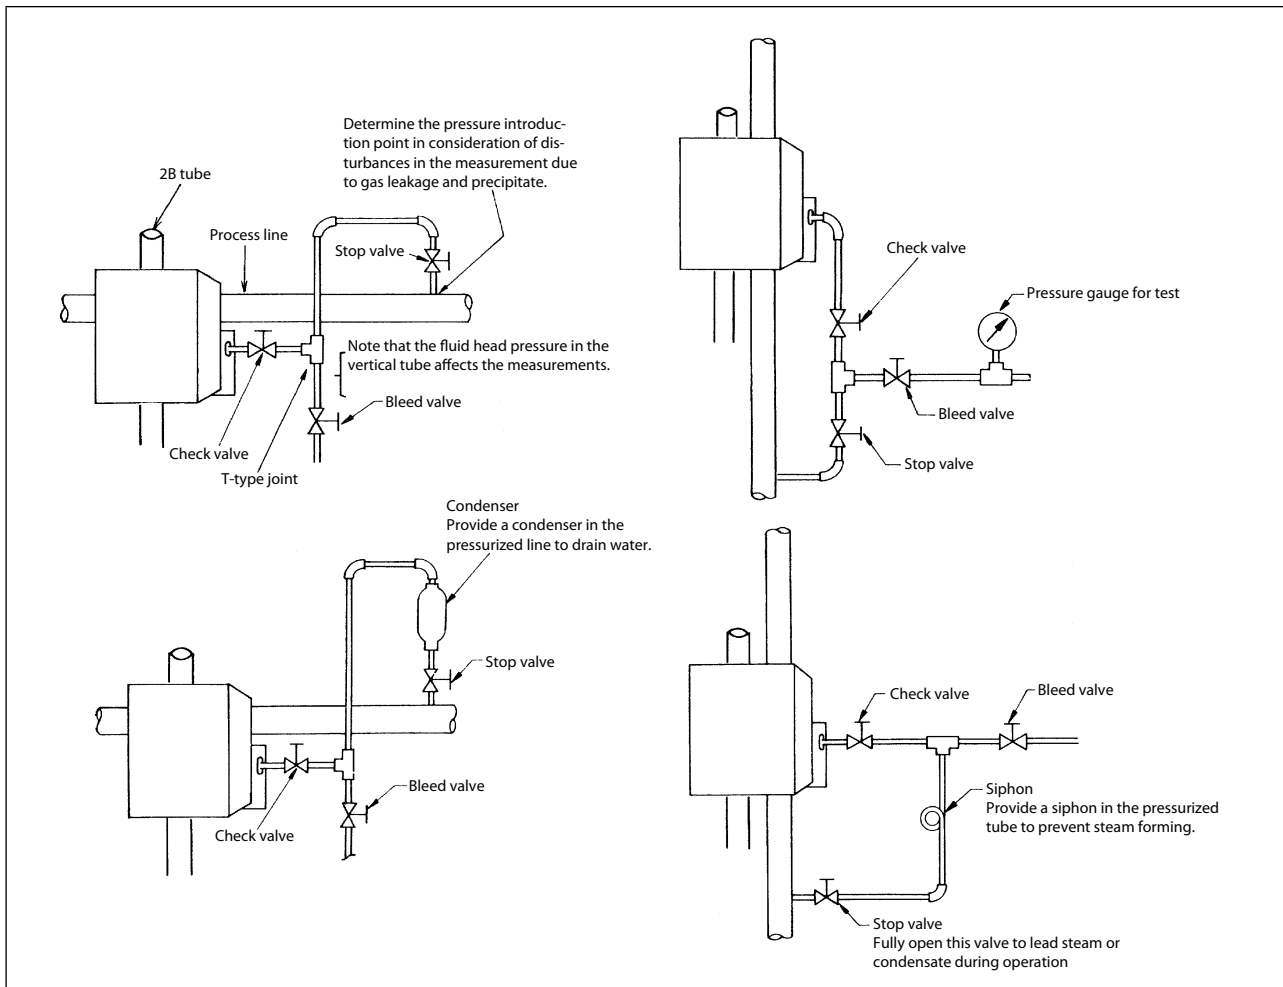

Fig. 6-4. Typical piping systems
- b) A typical piping example is shown in Fig. 6-4. The procedure is as follows: